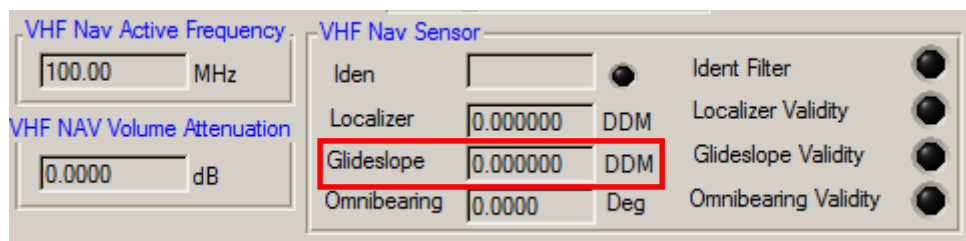

Figure 21 DDM reading
- 3) Now confirm the alignment by reading the GS DDM output. The DDM reading should be 0.000 +/- 0.0001. (Figure 21)